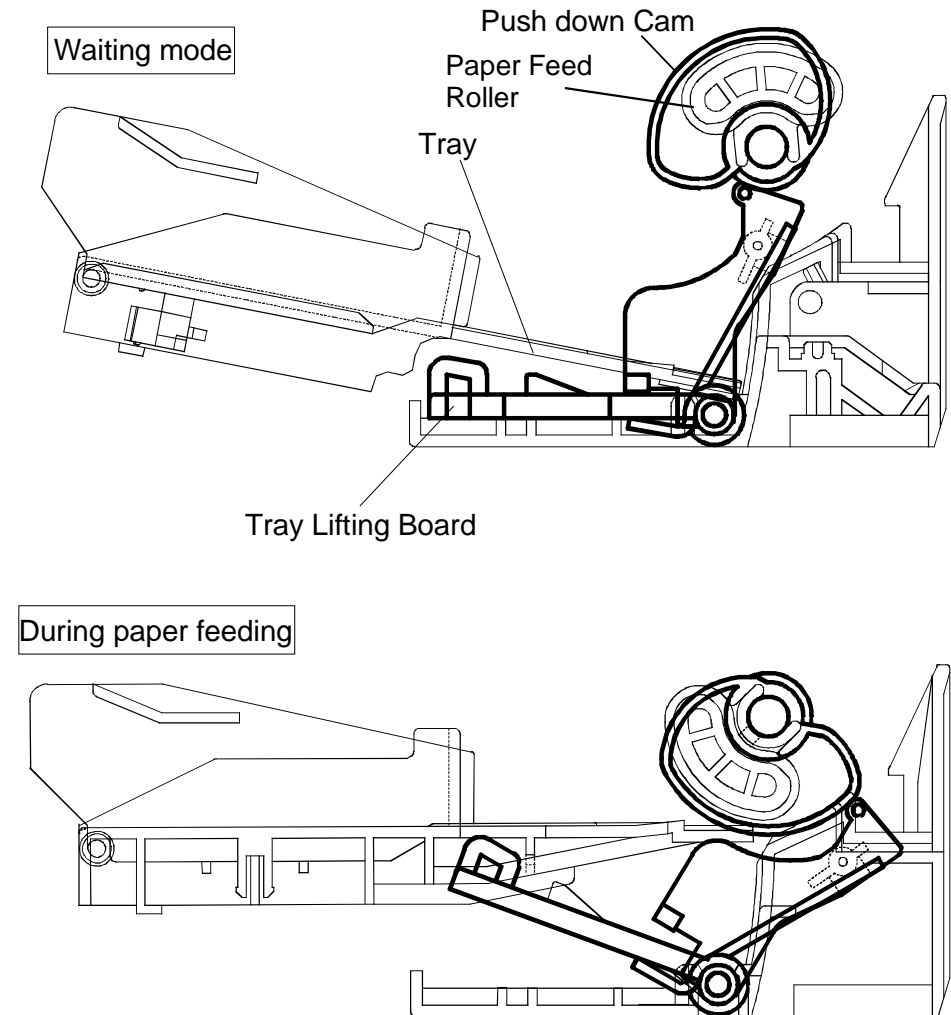

Figure 2-4. Paper Feed Operation
2. At the same time, the push down cam also rotates, then, the tray lifting plate stands up. The paper in the tray is carried into the printer by the paper feed roller. (see figure2-4)